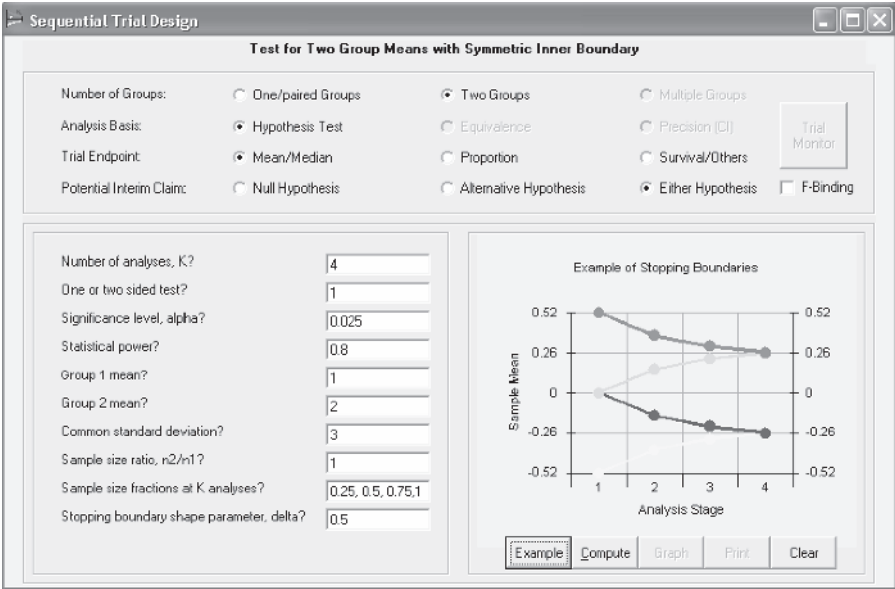

Figure 1.4 Group sequential design window.
9. Click **Save** to save the design specification or report (see Figure 1.4).